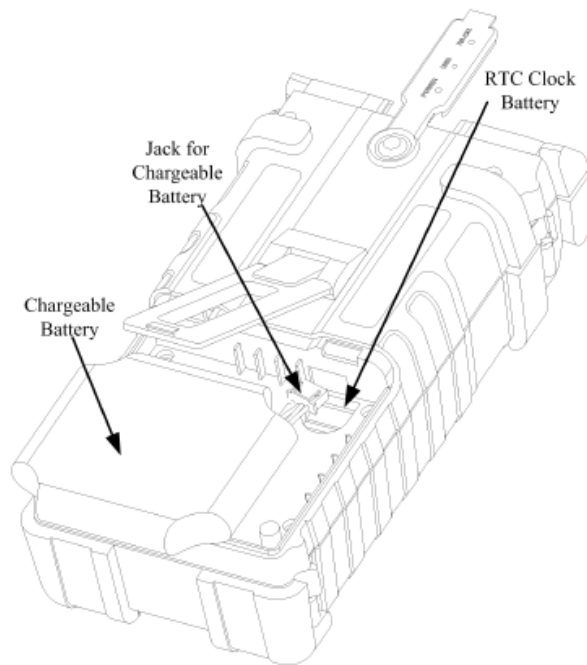

Figure 7-1. Replacing Battery
- As in figure 7-1, procedure of replacing battery is as follows.